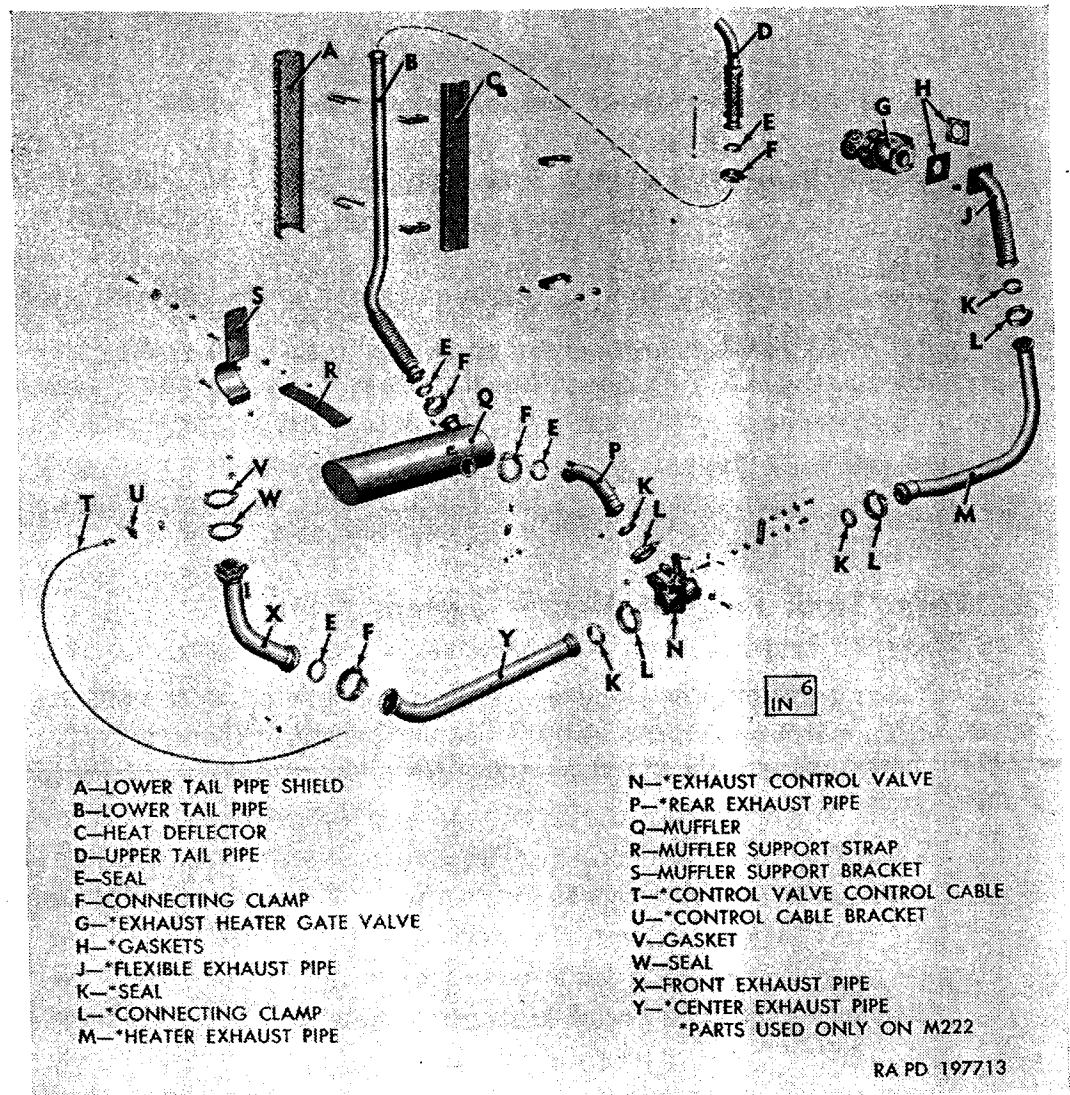
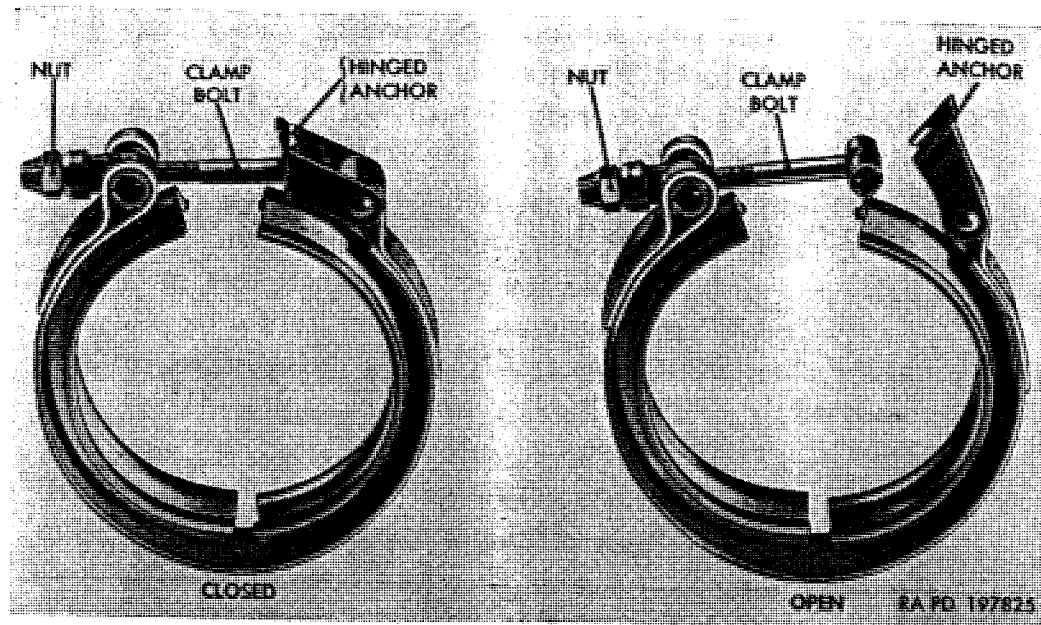

Figure 377. Water tank truck M222 exhaust system components.
Figure 378. Exhaust pipe connecting clamp.
- (1) Water tank exhaust heater system is connected to the engine exhaust system at the exhaust control valve. Control valve is controlled by a flexible cable from the driver's compartment. With handle in driver's compartment pushed in, gate in control valve seals the outlet to the water tank, and exhaust gases are directed through the muffler and tail pipe as in a conventional exhaust system. With handle pulled out, gate in control valve seals outlet to muffler and directs exhaust gases into the pipe leading to water tank heating chamber. After passing through tank heating chamber, the exhaust gases are expelled through an exhaust opening in tank body underframing at left rear corner.
- (2) Procedures in this paragraph cover replacement of control valve cable, replacement of the exhaust pipe connecting clamps and seals, and replacement of exhaust pipes which are used only on water tank truck M222. For information on exhaust system components which are common to all vehicles, refer to paragraphs 137-140. Refer to paragraphs 348 and 349 for information on exhaust control valve and exhaust heater gate valve. Exhaust system components are shown in figure 377, with parts used only on water tank truck M222 indicated by an asterisk (*). All other parts are common to all vehicles.
Note. The key letters noted in parentheses are in figure 377, except where otherwise indicated.
- (1) *Removal.* To remove either the heater exhaust pipe (M), rear exhaust pipe (P), or center exhaust pipe (Y), remove connecting clamps (F and L) at both ends of pipe. To remove clamp, loosen clamp bolt nut enough to permit disengaging hinged anchor from end of clamp bolt (fig. 378); then spread clamp enough to remove from joint and slide onto pipe. Work each end of pipe loose from its attaching part and remove from under vehicle. To remove flexible exhaust pipe (J), remove connecting clamp (L); then remove four cap screws and nuts securing pipe flange to gate valve. Remove pipe and gasket (H). Discard gasket. Examine clamp seals (E and K); if damaged to the extent that leakage will occur, discard seals and obtain new seals for installation.
- (1) Before installing control valve, examine seals (K, fig. 377) on center, rear, and heater exhaust pipes. If damaged in any way, replace with new seals. Make sure connecting clamps are hanging on exhaust pipes.
- (2) Position valve under vehicle with rear exhaust pipe (H) and heater exhaust pipe (K) engaging outlet openings in valve body. Work pipes into body until the connecting clamp will engage both clamping flanges at each joint.
- (3) Place connecting clamp (J) over each joint, squeeze clamp together and swing hinged anchor over end of clamp bolt (fig. 378). Tighten clamp bolts just enough to prevent leakage.
- (4) Connect control valve support strap (D) to control valve support bracket (C) with a $\frac{3}{8}$ -24 x $1\frac{1}{8}$ cap screw, plain washer, spacer, and $\frac{3}{8}$ -24 safety nut. Attach cable clip (B) to control valve support bracket (C) with a $\frac{1}{4}$ -28 x $\frac{3}{4}$ cap screw and $\frac{1}{4}$ -28 safety nut.
- (5) Install center exhaust pipe (M) (par. 347c(2)).
- (6) Adjust yoke (F) on cable and connect to operating lever (G) (par. 347b(2)(b)).
- (7) Check operation of valve with handle in driver's compartment to make sure no binding exists in control cable or valve shaft.
- (1) Remove four nuts and cap screws (J) attaching flexible exhaust pipe (K) to heater gate valve (L).
- (2) Remove four nuts and cap screws (M) attaching heater gate valve (L) to mounting on body. Remove gate valve assembly.
- (3) Remove and discard two gaskets (H, fig. 377). Make sure all particles of gasket are removed from flexible pipe flange and mounting on body.